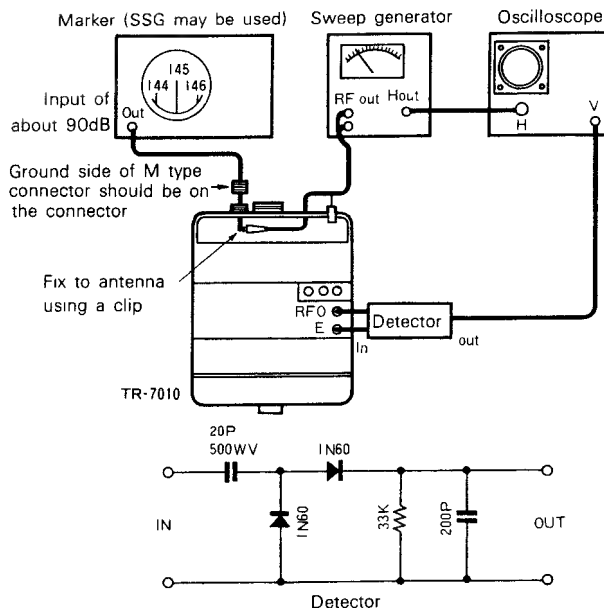

FIG. 12 HELICAL ADJUSTMENT
- (1) Adjustment setup is shown in Fig. 12.